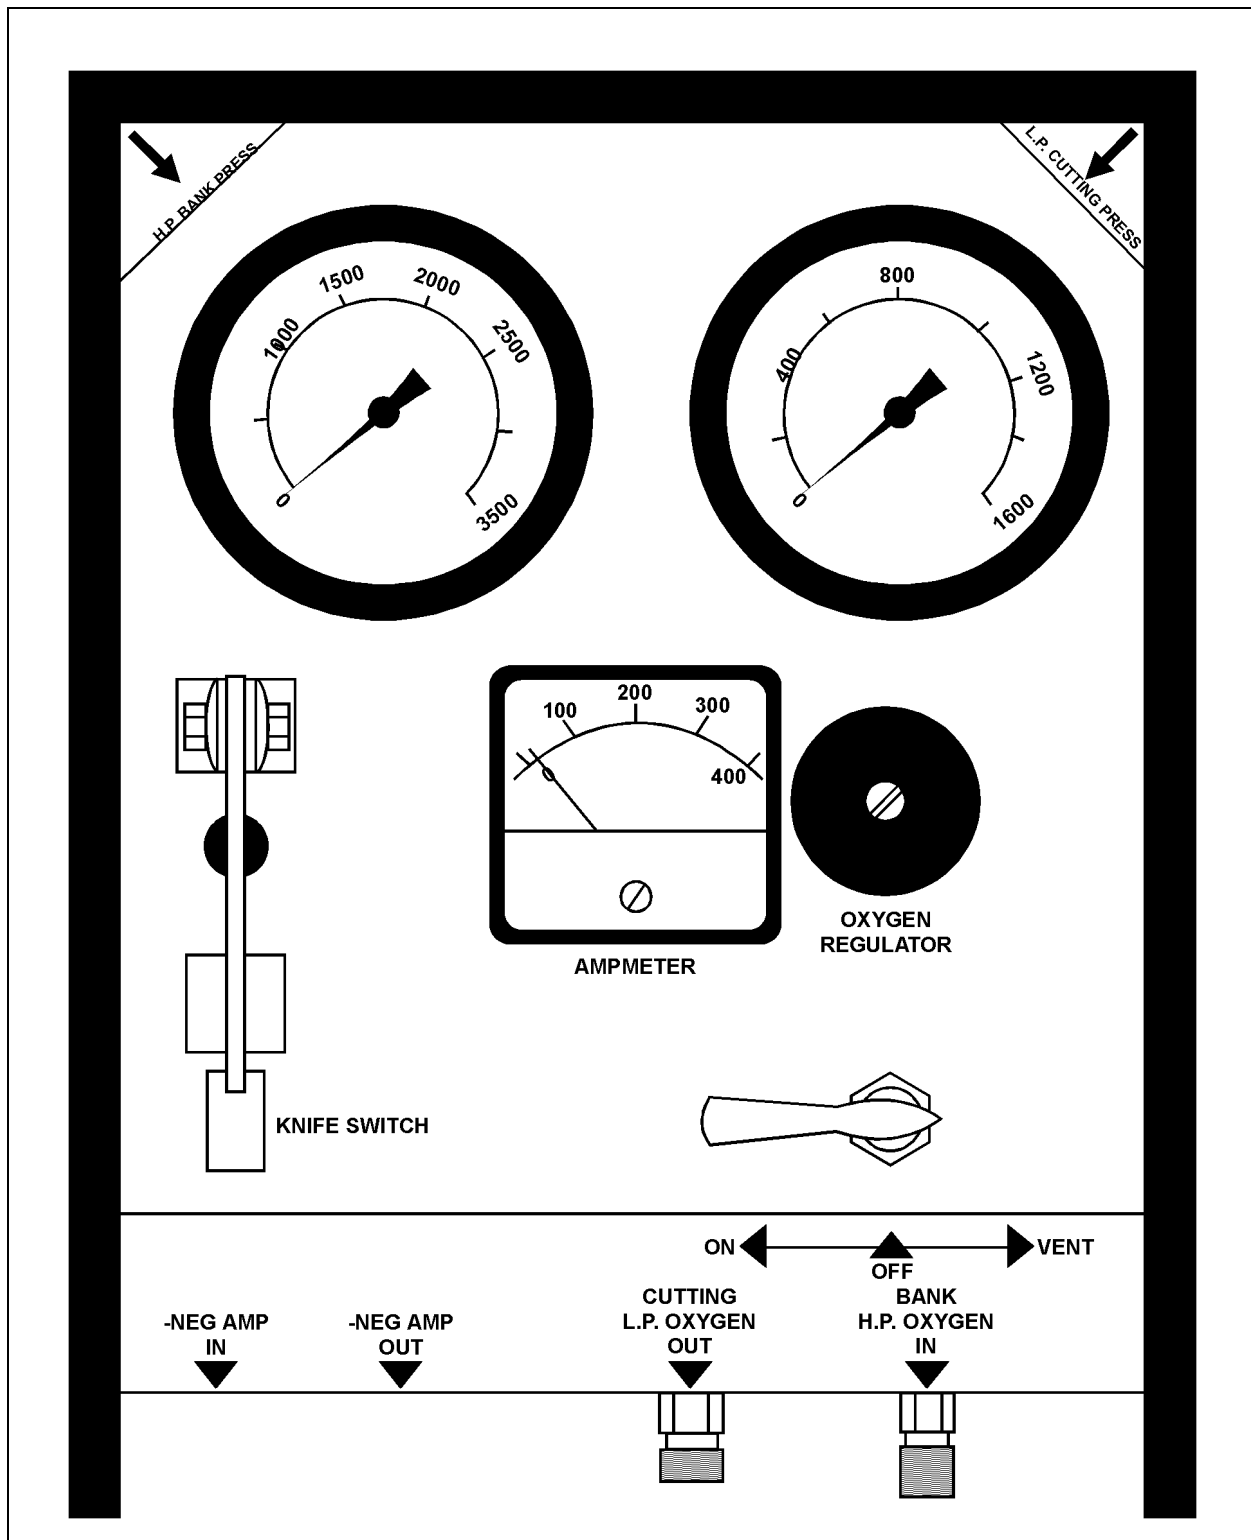

Figure 2-8. Seeler Kerie Cable Control Panel.
**2-4.2 Materials Required for Kerie Cable Cutting.** The Seeler Enterprises LU-001 Exo-thermic Cutting Tool (Kerie Cable) is supplied with a surface control panel. (See Figure 2-8, which includes an oxygen regulator, an on-off and vent flow valve for the oxygen and a knife switch and electrical and oxygen connections. Oxygen, batteries and ground cable are not included.)